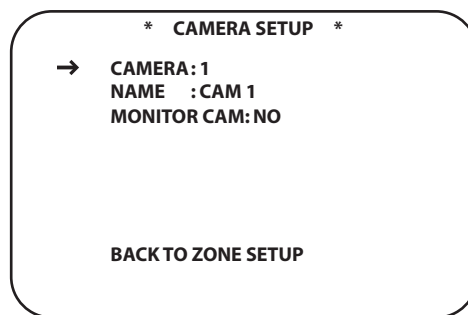

Figure 65.
1. From ZONE SETUP PAGE 1, with the cursor next to CAMERA SETUP, press the **Set Button 18**. The CAMERA SETUP screen will appear (Figure 65).